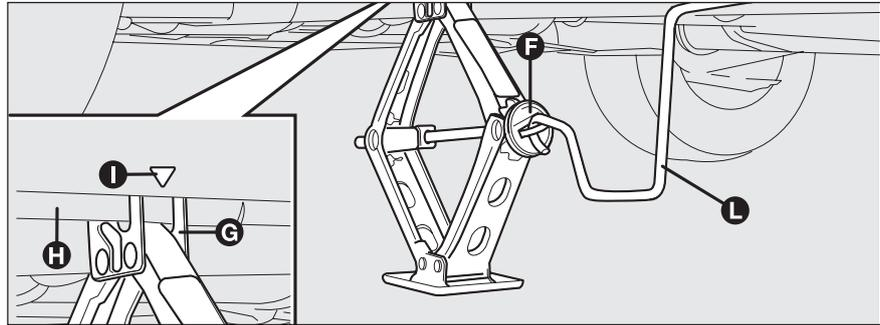

fig. 13
- ❑ operate the device **F**- fig. 13 to expand the jack, until the groove **G** on the upper part of the jack is correctly inserted on the lower edge **H** of the body at indication **I** (at approximately 60 cm from the front wheel centre or 80 cm from the rear wheel centre);
- ❑ fit the handle **L**-fig. 13 to operate the jack and lift the car until the wheel to be changed is several centimetres off the ground;